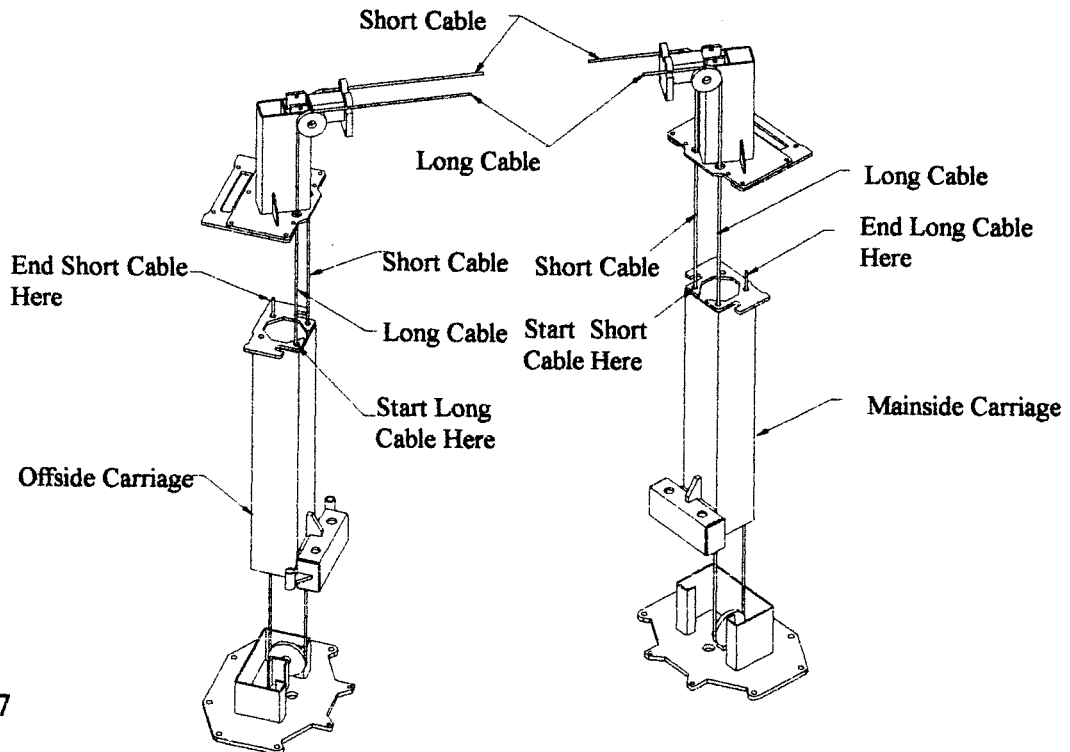

FIGURE 7
16. Refer to Figure 7 on the following page. Assemble a 3/4" NF nylon insert nut with a SAE washer onto one end of each cable. Start at the left front hole at the top of the mainside carriage. Thread the SHORT cable up thru the hole in the carriage top, up to the overhead pulley, across to the other overhead pulley on the offside, down thru the hole in the leg top, down thru the hole in the right front of the offside carriage top, around the pulley in the leg bottom, and up to the right rear hole of the carriage top. Secure the cable end with a 3/4" NF nylon insert nut and SAE washer. Do not tighten the cable at this time.
17. Start at the left front hole of the offside carriage and run the LONG cable in the same manner. Secure the cable end with a 3/4" NF nylon insert nut and a SAE washer. Do not tighten the cable at this time. See Figure 7 on the following page.